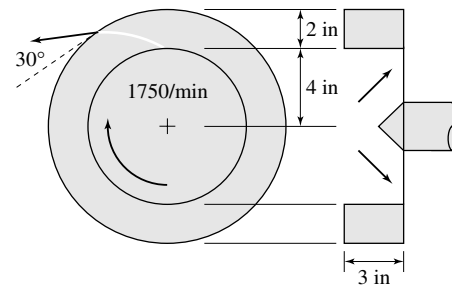

Fig. P11.21
**11.21** The centrifugal pump of Fig. P11.21 develops a flow rate of 4200 gpm with gasoline at  $20^\circ\text{C}$  and near-radial absolute inflow. Estimate the theoretical (a) horsepower; (b) head rise; and (c) appropriate blade angle at the inner radius.